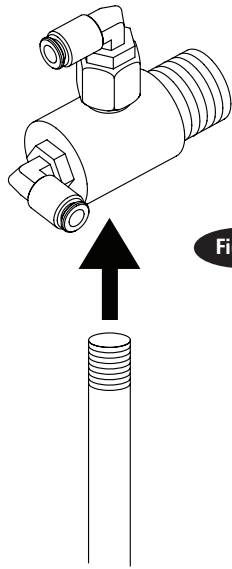

Fig. 20
2. Install sensing tube into LDS valve assembly as shown, Fig. 20. Sealant may be required on threads to ensure air tight connection. Connection must be air tight to 90 PSI. Hand tighten tube then turn an additional 2 turns; maximum engagement is 3/8".